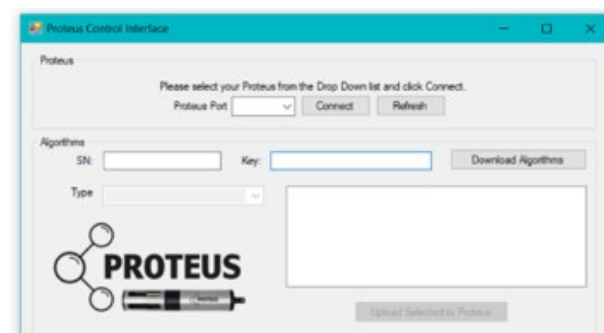
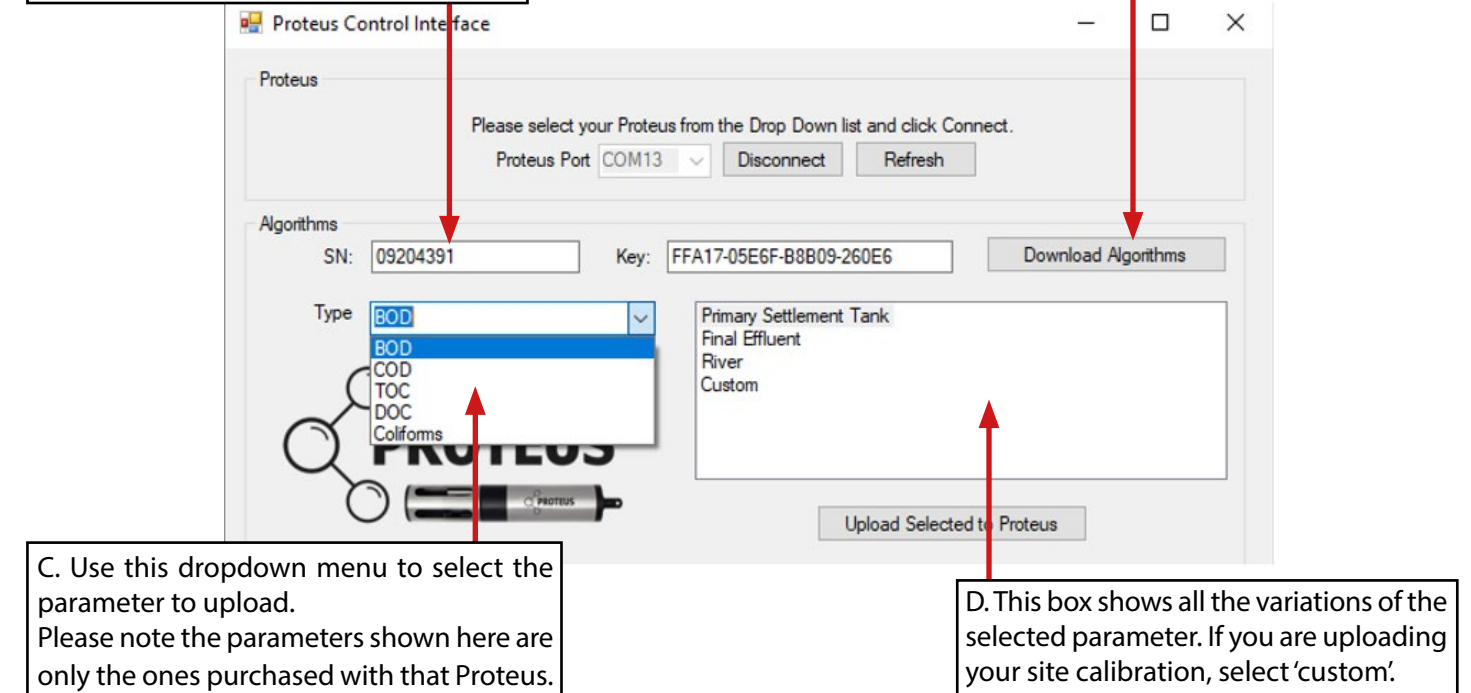

Figure 15: PCI before connection to probe.
Figure 16: PCI with Proteus connected. 6. The 'Turb Port' should always show '3' – if it doesn't, disconnect the Proteus and restart the process from Step 1.
4. Figure 15 will display; the Proteus Port will automatically detect which COM port the Proteus is plugged into – click 'connect' to make the connection.
6. A successful connection will produce the following (Figure 16).
A vertical clearance of 75mm (provided by the Sensor Guard) is required for optical sensors (fluorometers, turbidity and DO) as backscatter can cause spurious data. The sensor should always be installed with the Sensor Guard securely fastened and, whenever possible, with the multiprobe in the vertical position (Figure 15). In larger streams and rivers where highly variable flows are anticipated, the multiprobe should be adequately protected from floating debris. We advise installing the sensor in a perforated stilling tube (Figure 16), to both protect the sensor and reduce ambient light interference. To secure the multiprobe use large cable ties attached to at least two points on the multiprobe (avoid using clamps as this can damage the instrument). Avoid installation in locations where deposition of sand/silt is likely.